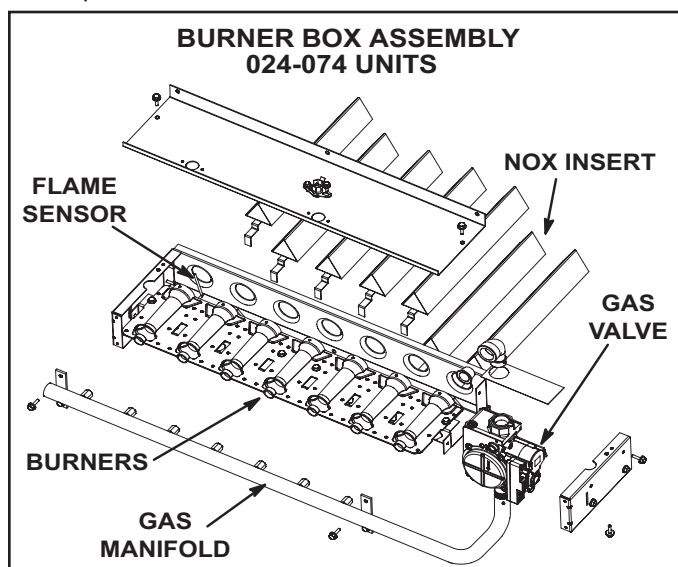
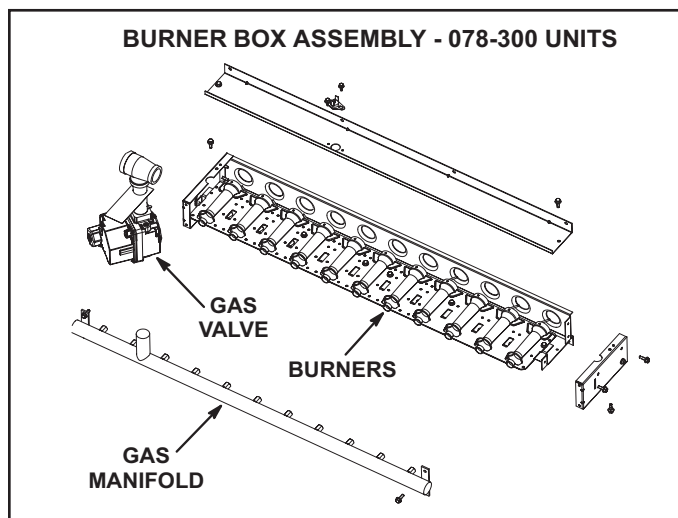

FIGURE 9
FIGURE 10
- 3 - Remove top burner box panel. See Figure 9 or Figure 10.